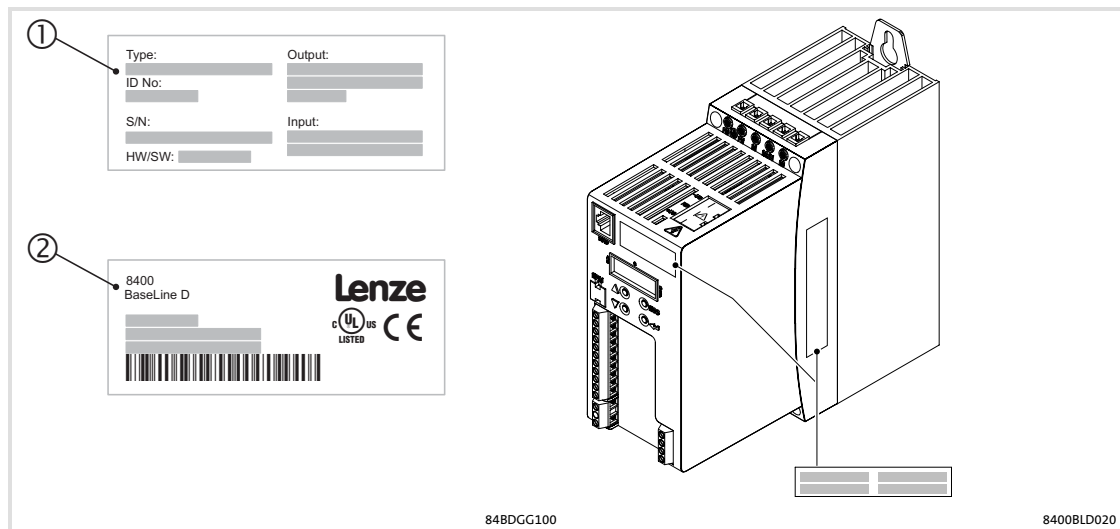

Fig. 3-2 Placement of the nameplates
The type data used in this manual refer to the nameplate ① which is placed at the front of the controller and to the nameplate ② placed on the side of the controller (Fig. 3-2).